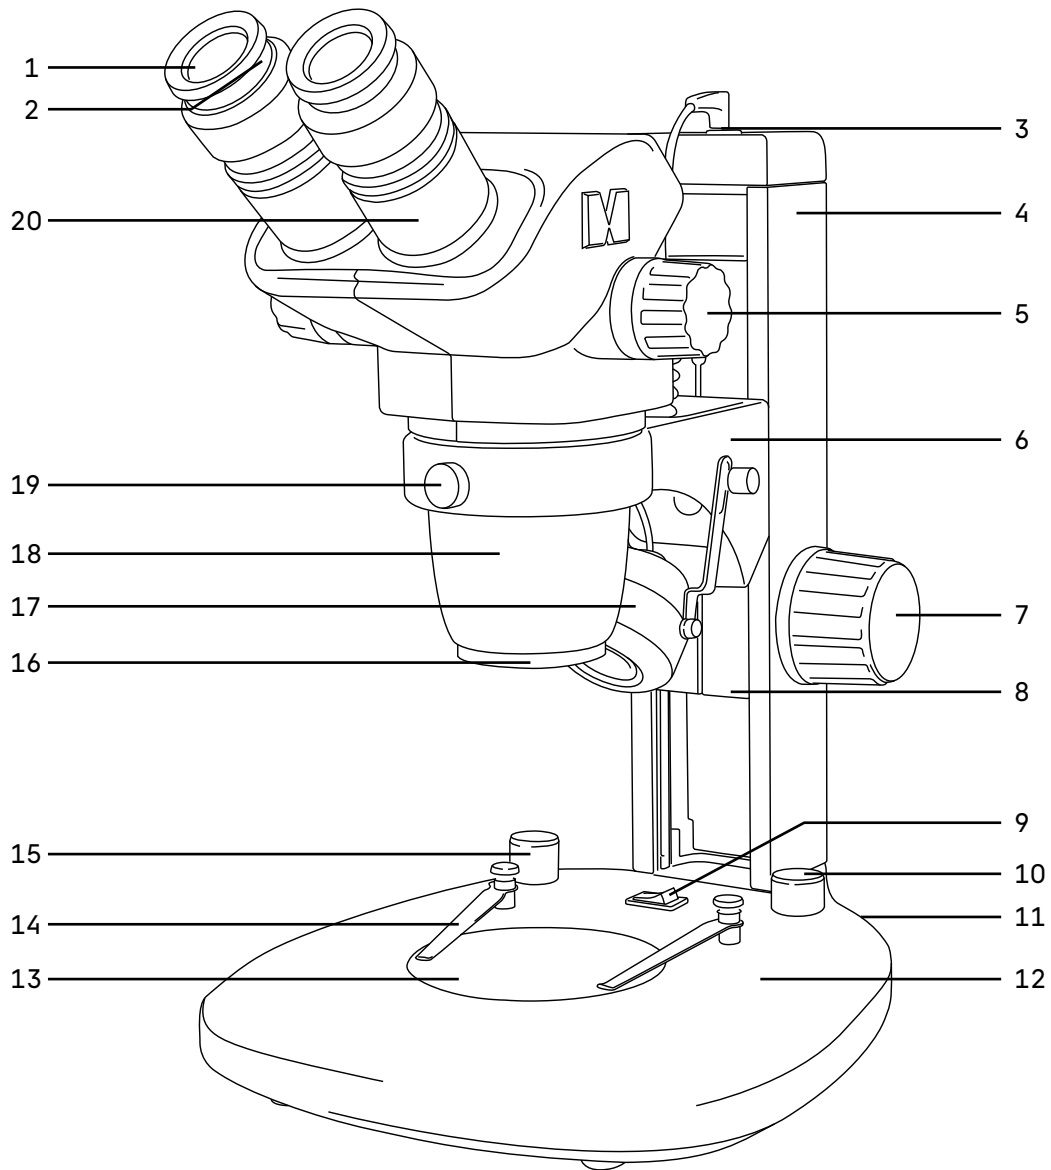

Fig. 1. MAGUS Stereo 7B Microscope
The general view of the microscope is given in Fig. 1.
The stand **4** (Fig.1) is mounted on the base **12** (Fig. 1). The stand is not removable.
Inside the stand is the focusing mechanism **8** (Fig. 1), on which the microscope head mount **6** (Fig. 1) is fixed. On top of the stand is the reflected light illumination socket **3** (Fig. 1).
The base **12** (Fig. 1) houses a power supply unit and a transmitted light LED. The stage plate **13** (Fig. 1) provides light scattering and uniform illumination of the entire surface of the specimen. The switch **9** (Fig. 1) is used to switch the light source on and off.
The brightness of the reflected light illuminator is adjusted using the knob **15** (Fig. 1), transmitted light brightness – using the knob **10** (Fig. 1).
The base also serves as a stage. The specimen is placed on the stage plate **13** (Fig. 1). The stage plate is inserted in the base opening. The diameter of the plate is 95mm.
The specimen can be fixed on the plate by two holders **14** (Fig. 1).
The focusing mechanism **8** (Fig. 1) moves in the stand **4** (Fig. 1), bringing the specimen into focus in accordance with the specimen height and the working distance of the objective.
The microscope head mount **6** (Fig. 1) is secured on the focusing mechanism. The total vertical travel range is 106mm.
The microscope head is installed on top of the mount and secured by the fixing screw **19** (Fig. 1). The microscope head can be turned sideways in the mount and fixed in any desired position.
The eyepieces **1** (Fig. 1) are mounted in the eyepiece tubes **20** (Fig. 1) of the microscope head. The tubes are adjusted to the observer's interpupillary distance, ranging from 54 to 75 mm.
To mount the camera (video eyepiece), remove the standard eyepiece, install the 23.2-30 mm adapter ring into the eyepiece tube **20** (Fig. 1), and then insert the C-mount adapter into it. Connect the camera to the adapter. The camera is used to transmit the image to a computer screen or monitor/TV.
The zoom objective lens **18** (Fig. 1) has 0.67–4.5x magnification and allows for smooth change of magnification up to 6.7 times with no loss of quality and maintaining a large working distance of 105mm.
The microscope magnification is changed by rotating the knob **5** (Fig. 1).
The 10x eyepieces have a linear field of view of 22mm (WF 10x/22). Each eyepiece has a diopter adjustment **2** (Fig. 1). The eyepiece tubes have a secure eyepiece mount design that prevents the eyepieces from accidentally falling out when the microscope is moved. The eyepieces are fixed in the tubes by screws.
The oblique illuminator **17** (Fig. 1) is fixed in the microscope head mount. The illuminator cord is plugged in the socket **3** (Fig. 1).
- Insert the stage plate **13** (Fig. 1). To observe transparent objects, use a glass plate. To observe opaque objects, use a black-and-white plate. To increase contrast, the white side of the plate is used for dark-colored objects, while the black side is for light-colored objects.
- Install the specimen holders **14** (Fig. 1).
- Install the microscope head in the ring of the mount **6** (Fig. 1). Secure the microscope head by the fixing screw **19** (Fig. 1). Do not overtighten the screw.
- Set the brightness adjustment knobs **10** and **15** (Fig. 1) to the minimum position.
Set the minimum magnification of the 0.67x objective by rotating the zoom knob 5 (Fig. 1). The zoom knobs are on both sides of the microscope head.
Screw the required objective lens 18 (Fig. 1) into the thread of the objective part. The 0.5x reducing objective lens increases the working distance and field of view.